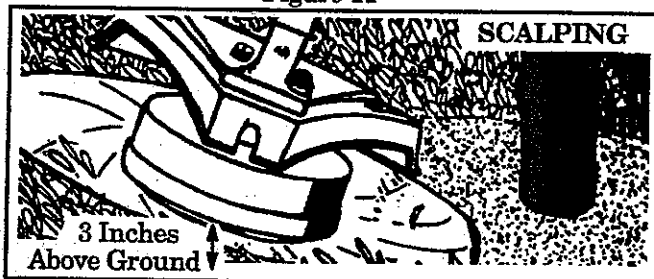

Figure 12
2. **SCALPING** – Figure 12 . The scalping technique removes unwanted vegetation. Hold the bottom of the trimmer head about 3 inches above the ground and at an angle. Allow the tip of the line to strike ground around trees, posts, monuments, etc. *This technique increases line wear.*